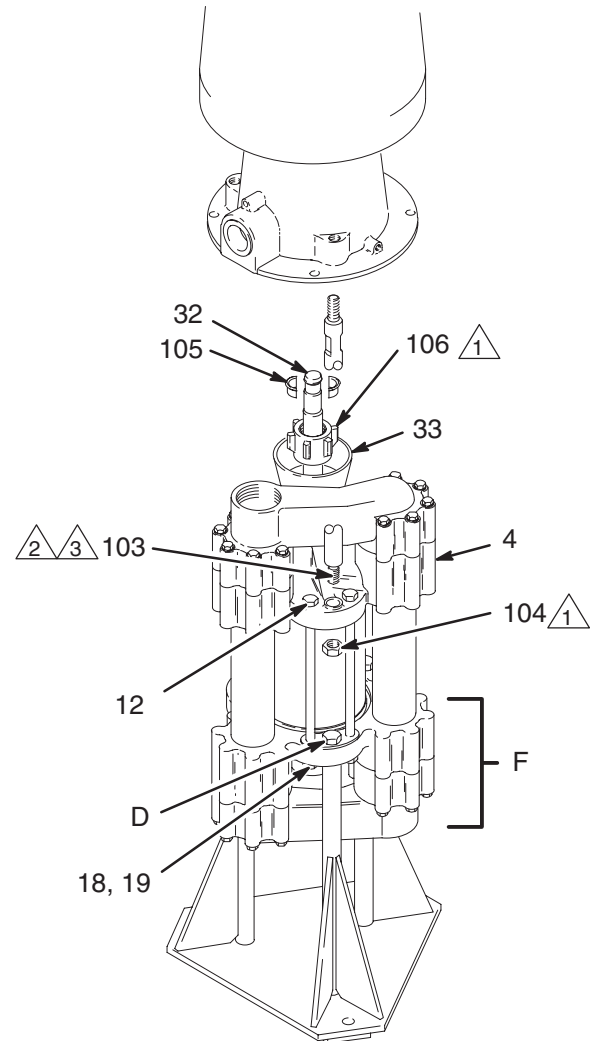
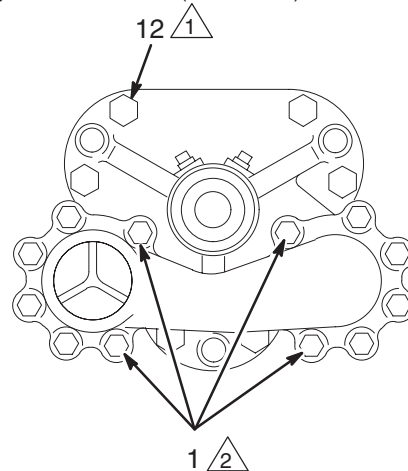

Fig. 8
Fig. 16
To Remove the Motor (See Fig. 8)
To Reattach the Motor (See Fig. 8)
3. Remove the nuts (19), lockwashers (18) and six cylinder capscrews (12). Loosen the packing nut (33). Lift off the outlet valve housing (4). See Fig. 8.
7. Unscrew and remove the three pump stand bolts (D). See Fig. 8. Lift the inlet valve assembly (F) off the stand. Place the inlet valve housing (3) face down on a protected surface.
30. Position the inlet manifold (5) on the inlet valve housing (3). Install the twelve capscrews (1) and lockwashers (2) loosely.
31. Tighten the four inside capscrews oppositely and evenly to 3 N.m (27 in-lb) to balance the load on the valves. Then tighten all twelve capscrews oppositely and evenly to 11.5–24.5 N.m (8.5–18 ft-lb). See Fig. 16.
32. Place the inlet valve housing and manifold assembly on the pump stand. Install and tightly screw in the three pump stand bolts (D). See Fig. 8, page 19.
33. Lubricate and install the new seals (13*, 29*) in the inlet and outlet housings (3, 4). Set the cylinder (15) and riser tubes (14) into place in the inlet valve housing (3). Set the outlet housing (4) onto the cylinder and riser tubes.
34. Install the six cylinder capscrews (12), lockwashers (18) and nuts (19). Tighten the capscrews oppositely and evenly to 81–88 N.m (60–65 ft-lb). See Fig. 16.
35. Lubricate the seals (43*) and press one into each side of the outlet valve housing (4). Press the seats (21), with the unworn sides facing the balls, into the outlet valve housing. Then install the balls (22) and ball guides (23).
36. Place the outlet manifold (5) on the outlet valve housing (4) and install the twelve capscrews (1) and lockwashers (2) loosely. Tighten the inside four capscrews oppositely and evenly to 3 N.m (27 in-lb) to balance the load on the valves. Then tighten all twelve capscrews oppositely and evenly to 11.5–24.5 N.m (8.5–18 ft-lb). See Fig. 16.
37. Tighten the packing nut (33) to 27–34 N.m (20–25 ft-lb).